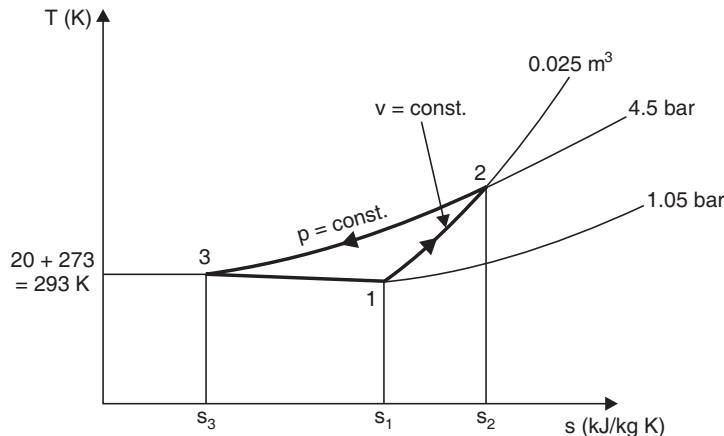

Fig. 3.30
**Solution.** The processes are shown on a  $T-s$  diagram in Fig. 3.30.
Referring to Fig. 3.30.